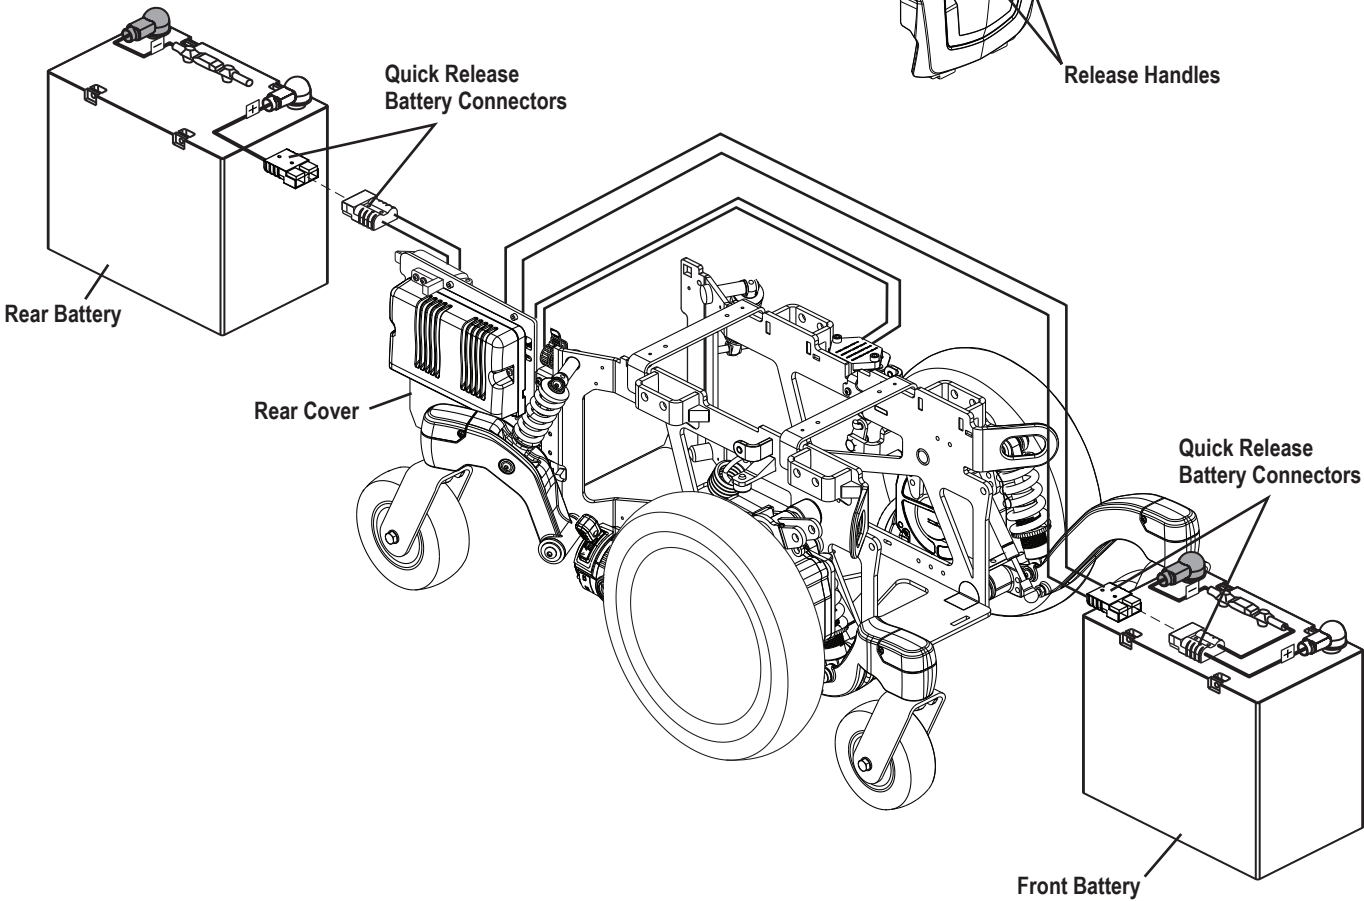

Figure 13. 22NF Battery Installation
3. Remove the front cover by squeezing the release handles (see figure 13) and lifting the front cover up and away from the power base.
4. Remove the rear shroud by rotating the two (2) yellow clips out toward the drive wheels. Lift the rear cover up and away from the power base.
6. Disconnect the quick release battery connectors. See figure 13.
9. Connect the battery harness to the new front battery according to the battery wiring diagram. See figure 13.
10. Connect the battery harness to the new rear battery according to the battery wiring diagram. See figure 13.